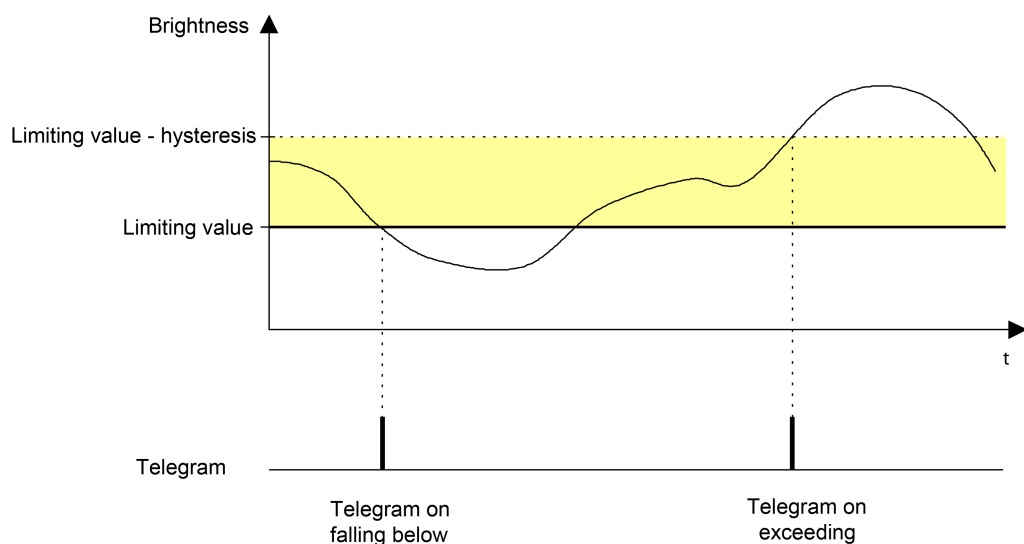

Figure 66: Example 2 of the limiting value definition
2. Brightness limiting value = Lower threshold (see figure 66)